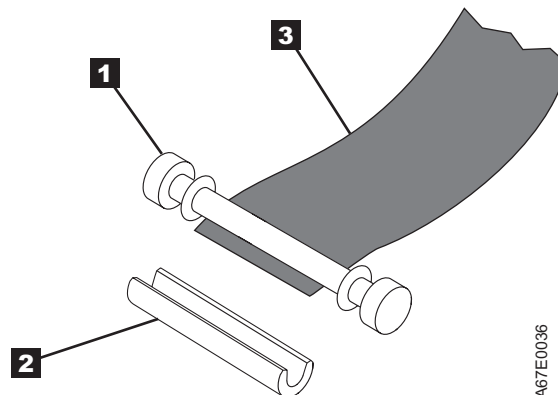

Figure 50. Removing the C-clip from the leader pin. Use your fingers to push the C-clip from the leader pin.
5. On the leader pin (**1** in Figure 50), locate the open side of the C-clip **2** . The C-clip is a small black part that secures the tape **3** to the pin.